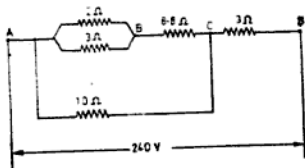

Fig. E 3.9
**EXAMPLE 3.9** Calculate the effective resistance of the circuit shown in Fig. E 3.9 and the voltage drops of each resistance when a potential difference of 240 V is applied between AB. Also calculate the current flowing through 2 and 3 Ω resistances connected in parallel in combination.